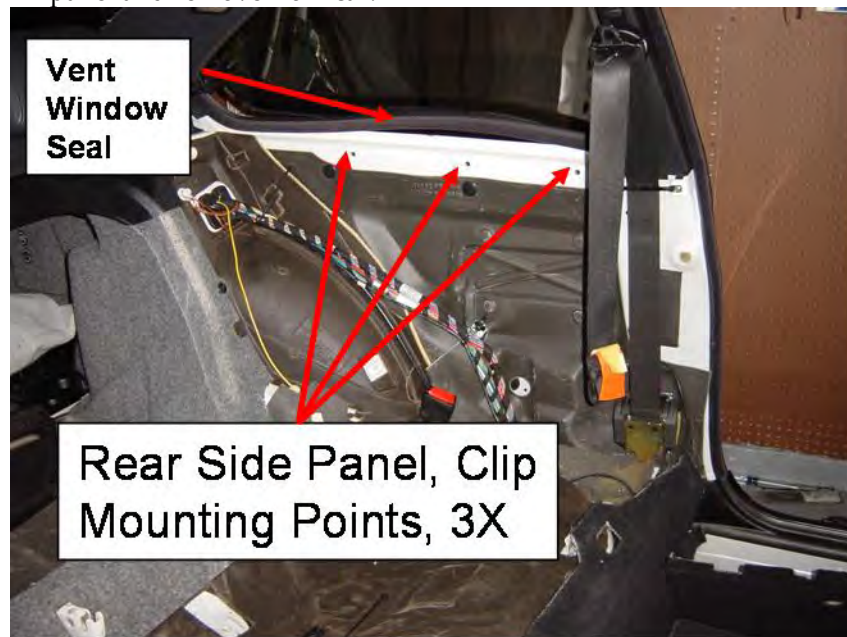

Figure 16 – Rear Side Panel Mounting Points, 3X and Vent Window Seal
- 5.15.1 There are three clips holding each rear side panel in place (Figure 16). First lift up the vent window seal on each side. It is held in place by friction, just lift up.